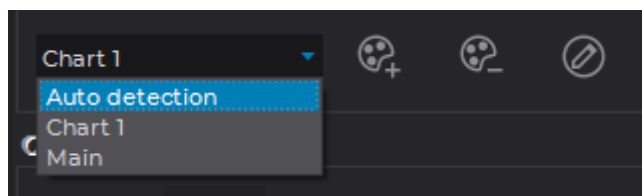

Figure 2.73: Drop-down chart menu
1. Click the **Add chart**  button. A new chart will appear at the bottom part of the window, and its name will be added to the drop-down chart menu. The opened menu is shown in Fig. 2.73.